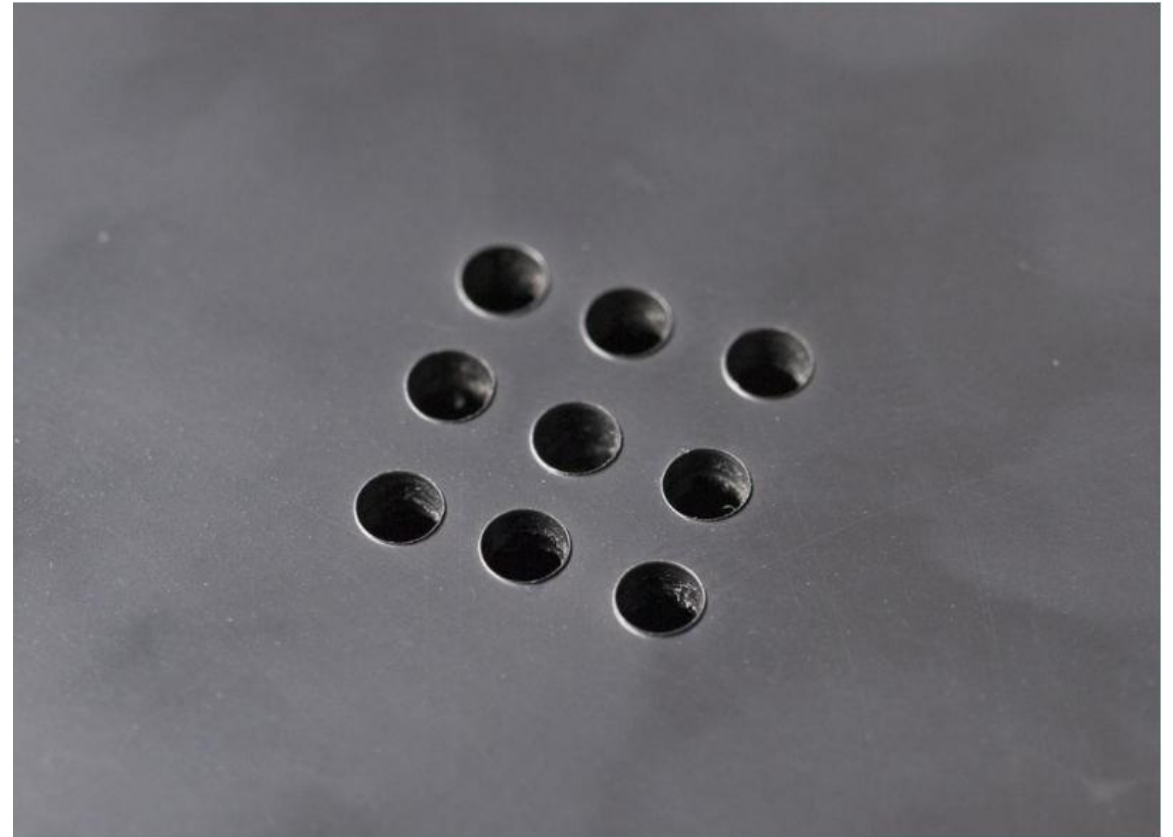

Figure 12-21. Holes to let the air in
- On the back of the box, we made a pattern of small holes (see Figure 12-21).